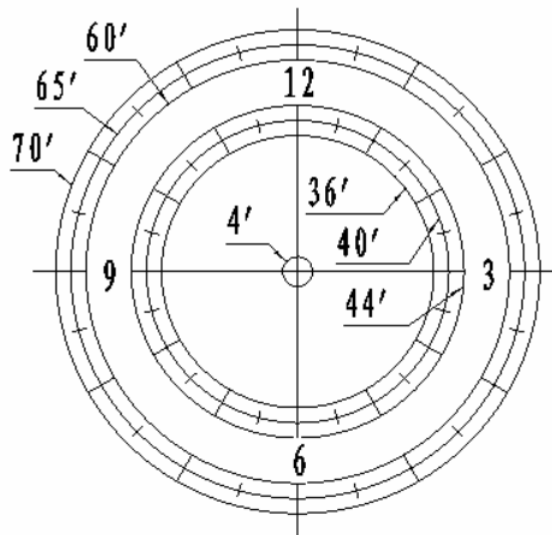

Figure 8
- (1) Take off the Polar Axis Cover and Polar Scope Cover;
- (2) Remove the protection tape on the thread-in hole located on the Polar Scope. Then thread the dark field illuminating LED end into the thread-in hole and plug the other end into the Reticule socket located on the RA unit. The illumination intensity can be adjusted using the HC via “**Set Eyepiece Light**” function under “**Set Up Controller**” menu;
- (3) Using UP or DOWN button to turn the DEC axis to unblock the Polar Scope view (there is a hole on the DEC axis);
- (4) Using LEFT or RIGHT button to turn the RA axis to rotate the Polar Scope dial to a clock position where 12 is at the top, as shown in Figure 8;